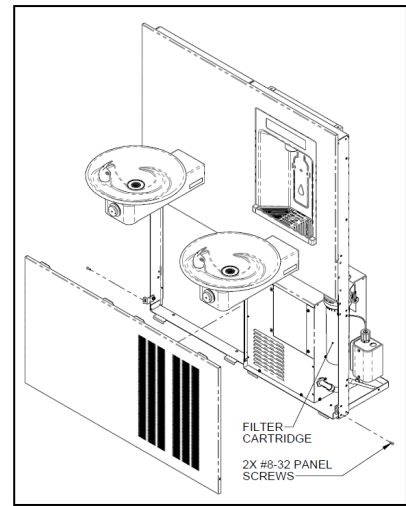

Figure 2 Filter Replacement
1. Remove the (2) lower panel screws (T20 Torx). Then remove the lower panel by sliding down and away from the unit.
4. Remove filter by turning about ¼ turn clockwise (as viewed from above) and pulling downward. See Figure 2.